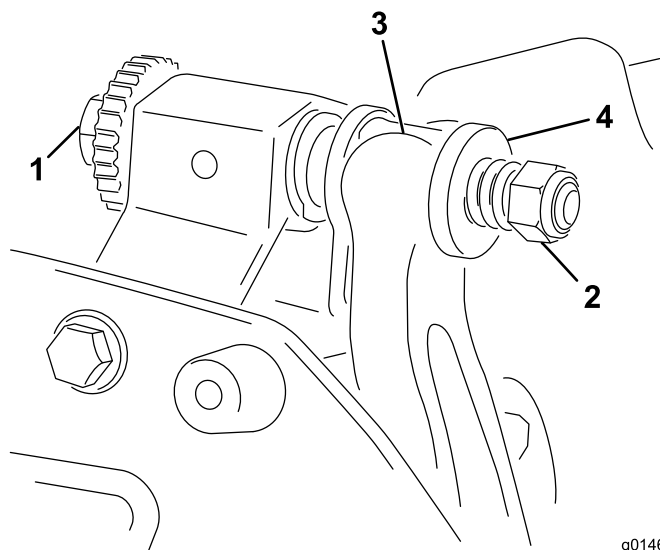

Figure 22
1. Turn the bedbar adjusting screw, counterclockwise, to back the bedknife away from the reel (Figure 22).
2. Back out the spring tension nut, until the washer is no longer tensioned against the bedbar (Figure 22).